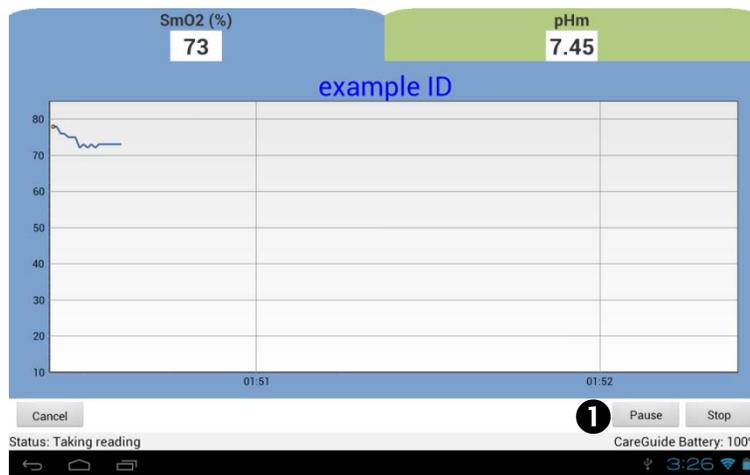

Figure 25. Example Monitoring Screen
- 1 Click the 'Pause' button on the Monitoring screen (Figure 25 ❶).
- 1 Click the 'Stop' button on the Monitoring Screen (Figure 25) to end current monitoring.